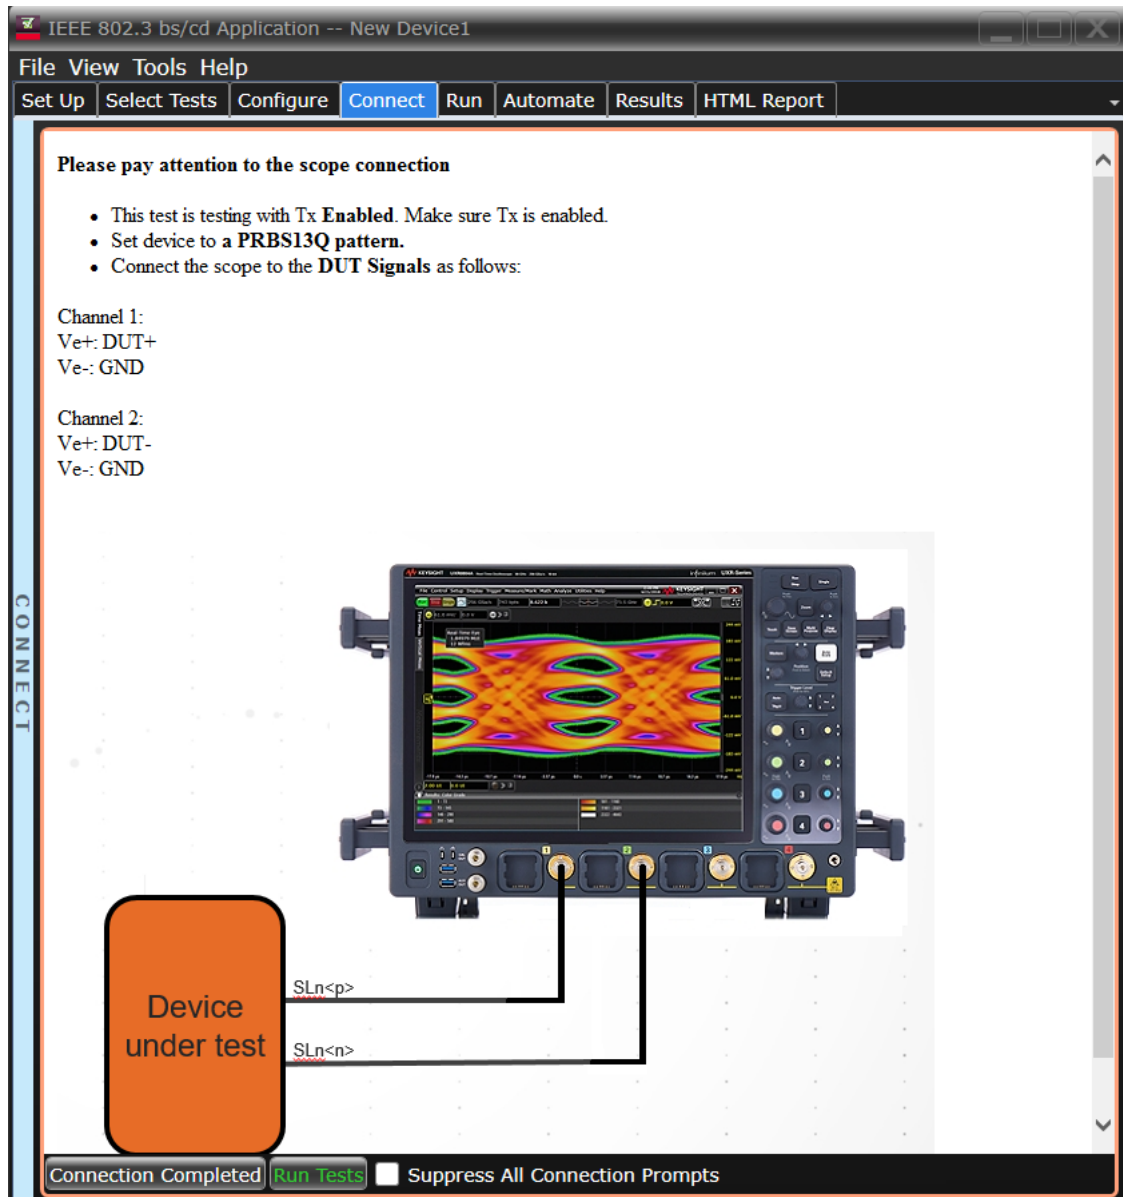

Figure 7 Connect tab in IEEE802.3 bs/cd Test Application on a UXR scope
- 4 In the **Connect** tab, view the instructions along with the connection diagram to ensure that all requirements for the physical setup of the testing instruments and the DUT are met. Click **Connection Completed** to indicate to the Test Application that the required hardware setup is complete. The connection diagram for most of the tests matches the one shown in Figure 7 for UXR Series Oscilloscopes. However, it is a good practice to verify the connection diagram and